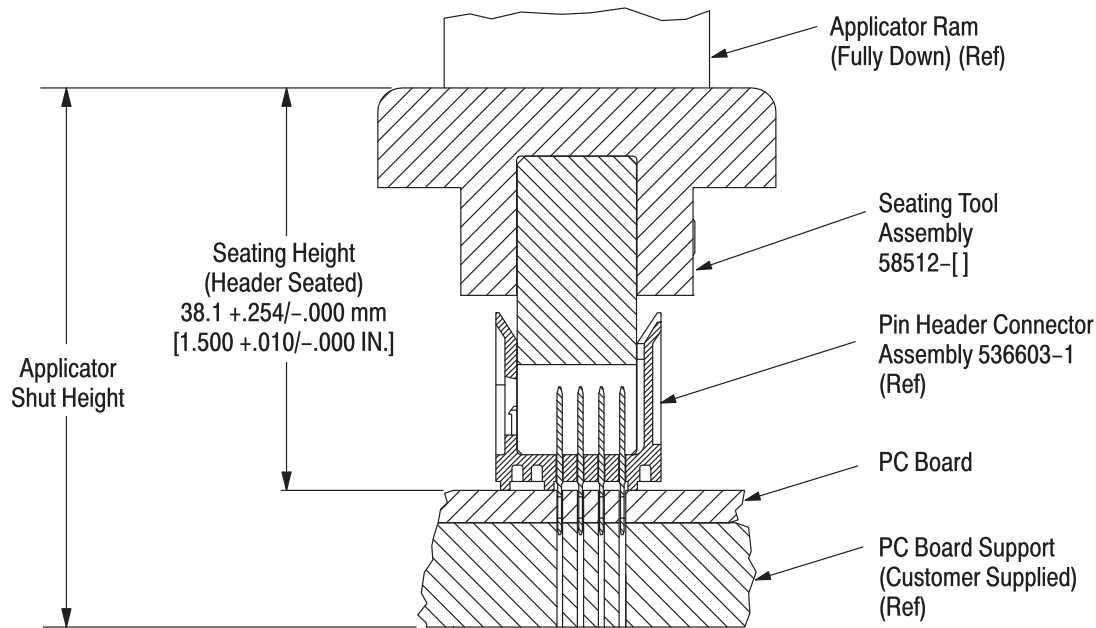

Figure 3
1. Set seating height to the dimension shown in Figure 3. (Applicator shut height will equal the seating height PLUS the combined thicknesses of the pc board and pc board support.)